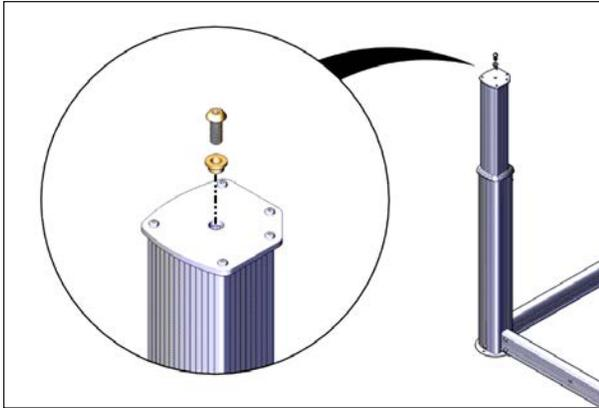

FIGURE 29: FASTEN THE SLEEVE TO THE JACK
23. Install the 3/8" x 1" Allen screw with a 7/32" (5.5 mm) socket previously removed from the jacks, with the smaller diameter of the bushing facing down for each post, see Figure 29.